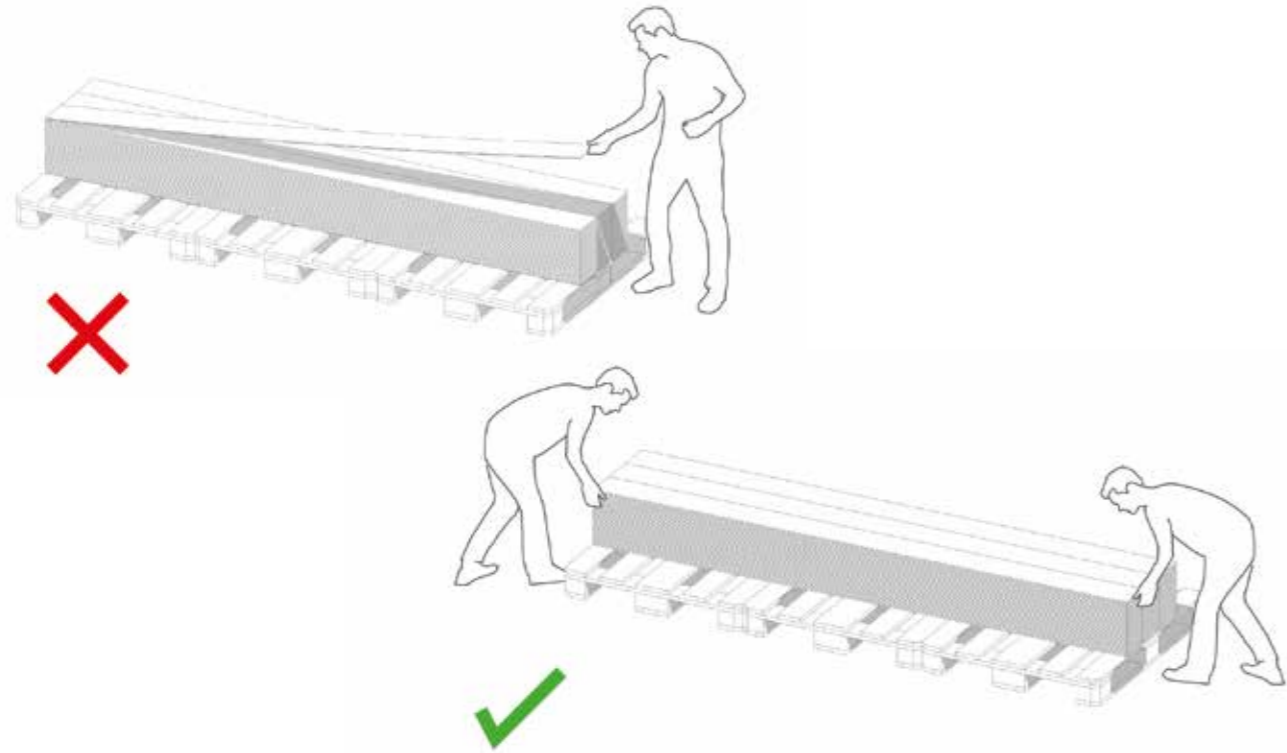

fig.7 – Do not slide planks/ Lift planks straight up
- Lift planks straight up, do not slide the planks against each other (see fig. 7)